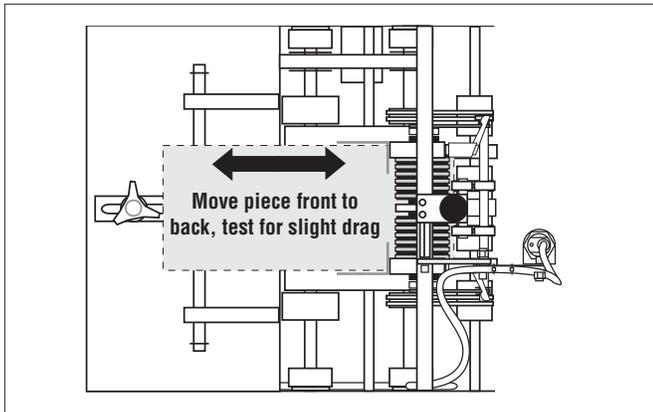

Figure 16. Using Two Pieces of Material to Set Gap
2. Test the piece for clearance. Grasp the envelope with two hands and slide it front-to-back under the gate assembly. A proper adjustment allows a slight amount of drag on the top of the envelope (figure 16).